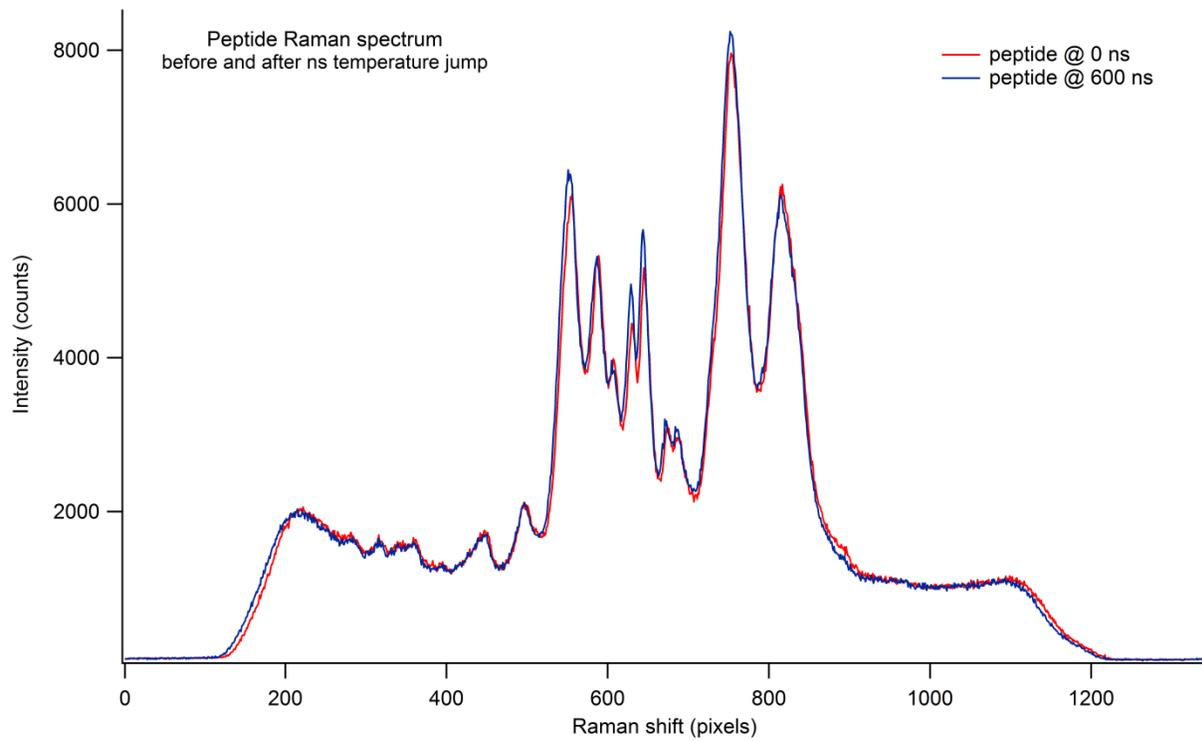

Figure 3. Raman spectrum of a peptide showing time-dependent changes.
A. Quite a lot. When comparing Raman or LIBS spectra taken with different instruments, or by different labs, it's really important to agree on where the peaks are. This is particularly important when taking difference spectra to monitor changes in a sample, as shown below in Figure 3 and 4. Frequent, accurate and traceable calibrations are essential in QA/QC and GMP environments. IntelliCal stores the data and accuracy of calibration in the data file.